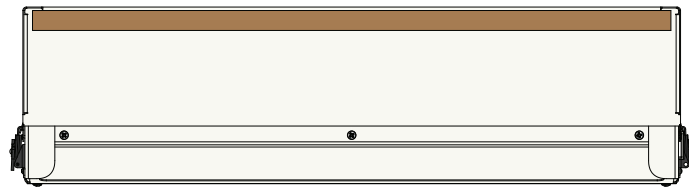

FIG. 1b
- Align the 24" Cork Strip (I) along the front edge of the BenchTop DC Assembly as shown in [FIG. 1b]. Peel the backer tape off and adhere to the BenchTop DC Assembly (A)